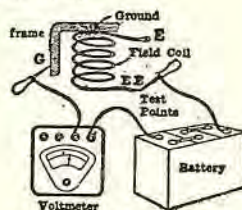

Fig. 9
When testing the field for a ground, be sure both field coil ends (E) and (EE) are disconnected from all terminals. Use the 30-volt connection as shown in Fig. 9. Place one test-point on (EE) and the other on the frame at (G). If deflection is shown, the coil is grounded and a new one must be supplied.